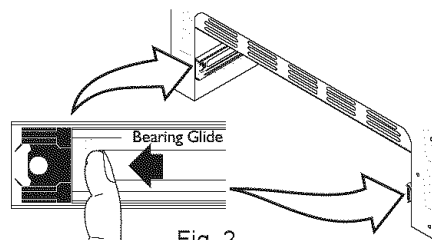

Fig. 2
1. Pull the bearing glides to the front of the chassis glide (See Fig. 2).